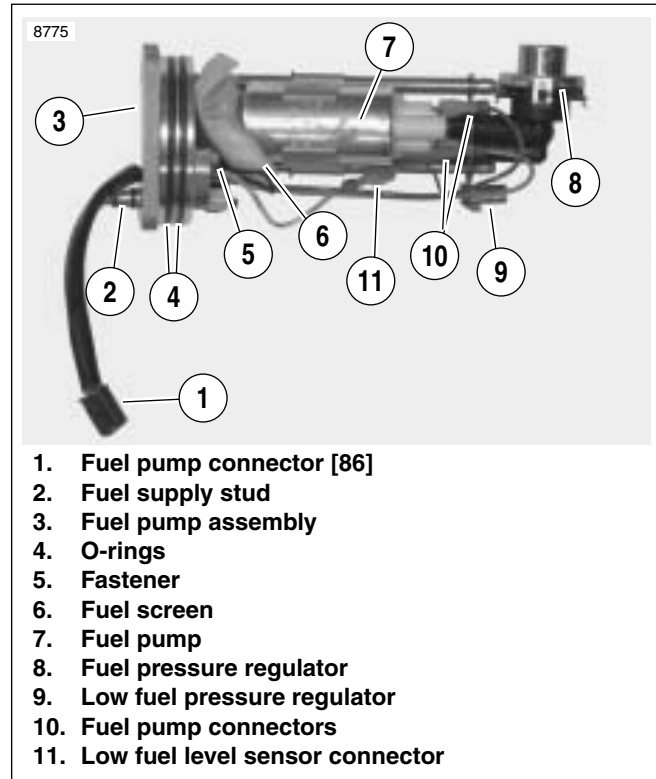
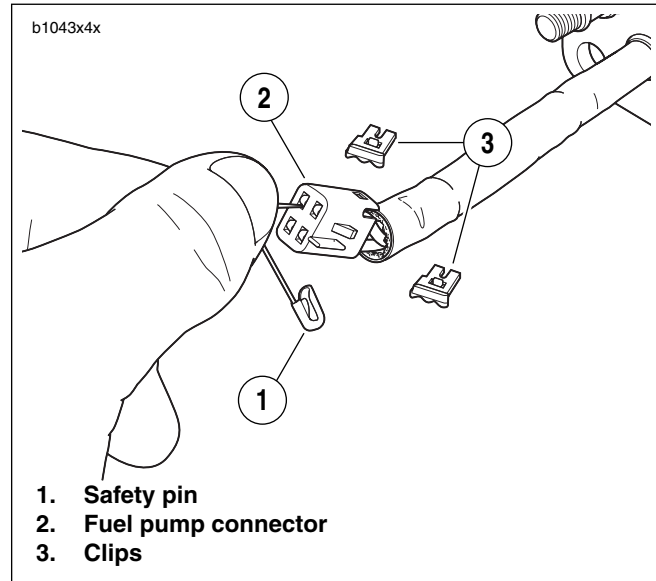
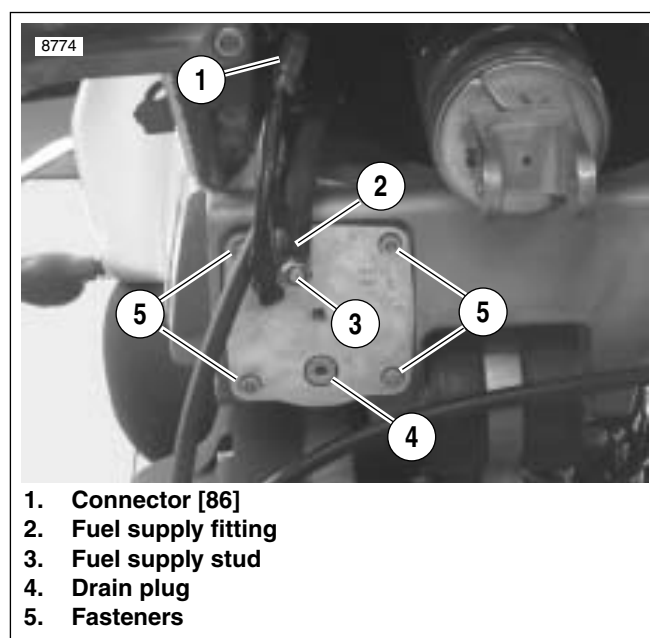

Figure 4-87. Fuel Pump Assembly (left side)
Figure 4-91. Fuel Pump Connector Disassembly
Figure 4-93. Fuel Pump Installation
2. See Figure 4-87. Pry four tabs of clip holding fuel pressure regulator (8) in place. Detach regulator from regulator housing.
4. See Figure 4-87. Disconnect fuel pump connectors (10) and low fuel level sensor connector (11).
6. Pry fuel screen (6) from fuel pump (7).
11. See Figure 4-87. Connect low fuel level sensor wiring (11).
12. Connect fuel pump connectors (10). Connectors are two different sizes.
4. See Figure 4-87. Disconnect fuel pump connector (10) and low fuel level sensor connector (11).
- a. See Figure 4-91. Remove connector clips (3).
- b. Insert push pin/safety pin (1), into connector as shown.
8. See Figure 4-87. Remove screw (5).
11. See Figure 4-87. Insert **new** fastener (5), through ground wire terminal and secure to fuel pump assembly. Tighten to 18-22 **in-lbs** (2.0-2.5 Nm).
16. See Figure 4-87. Connect low fuel level sensor connector (11).
17. Connect fuel pump connectors (10). Connectors are two different sizes.
1. See Figure 4-87. Replace o-rings (4). Lubricate **new** o-rings with **clean** engine oil.
2. Install **new** o-rings on fuel supply stud (2). Larger o-ring is located in groove closer to fuel pump.
3. See Figure 4-93. Insert fuel pump into frame until resistance is felt.
4. Insert four screws (5) through fuel pump and into frame.